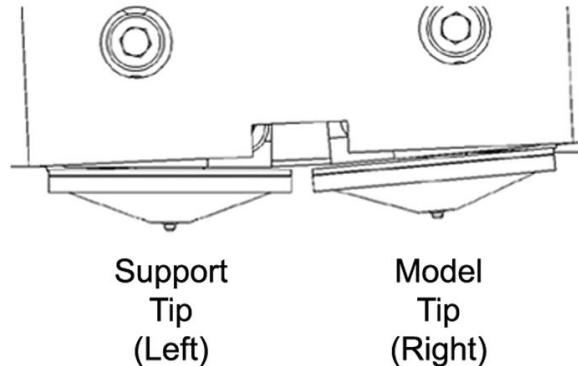

Figure 9: Close-up of extrusion tips
- Watch the model extrusion tip (see Figure 9) to see if material extrudes (purges) after loading. The panel will then display **Did Model Material Purge?**
- Watch the support extrusion tip (see Figure 9) to see if material extrudes (purges) after loading. The panel will then display **Did Support Material Purge?**